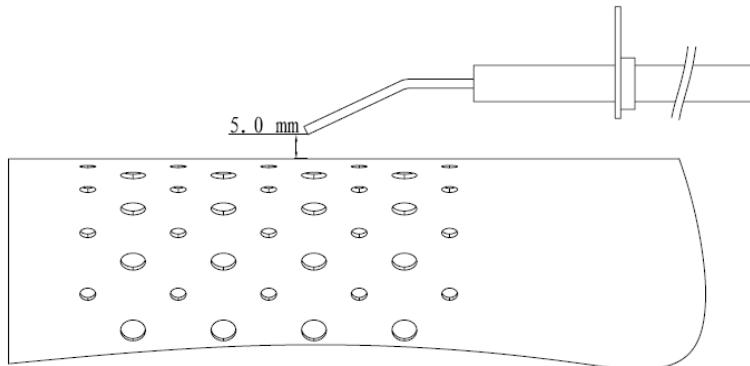

Fig.5
5.2 Check the position of the starting electrode (see Fig.5).